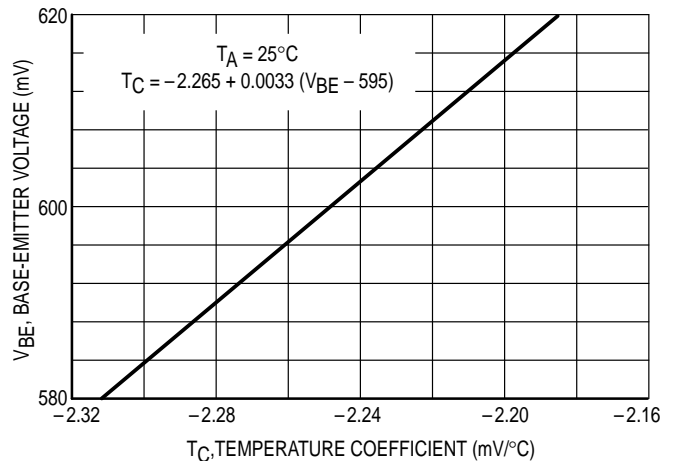

Figure 3. Temperature Coefficient versus Base-Emitter Voltage
- b. If  $V_{BE}$  (nom) is less than or greater than 595 mV determine  $T_C$  from the relationship described in Note 4.  $T_C = -2.265 + 0.0033 (V_{BE} - 595)$  or see Figure 3.